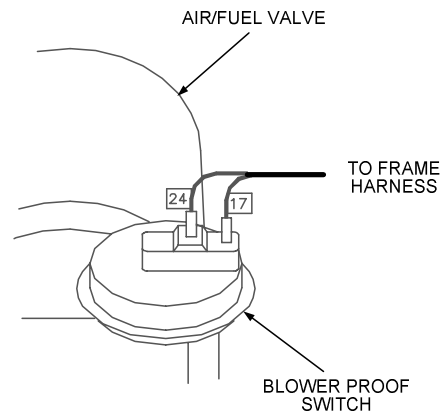

Figure 7.5
14. Disconnect wires #24 and #17 from the blower proof switch (See Fig. 7.5).